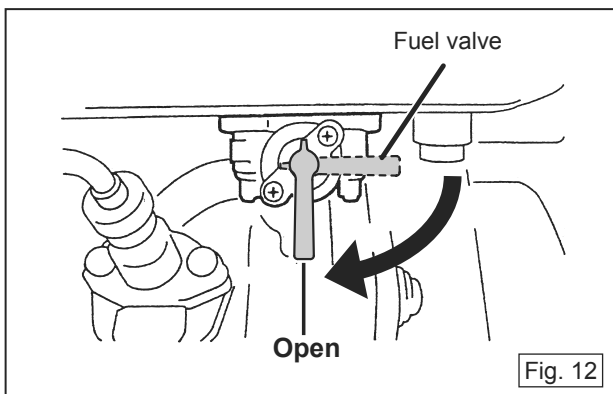

Fig. 12
3. Open the fuel valve. (Fig. 12)